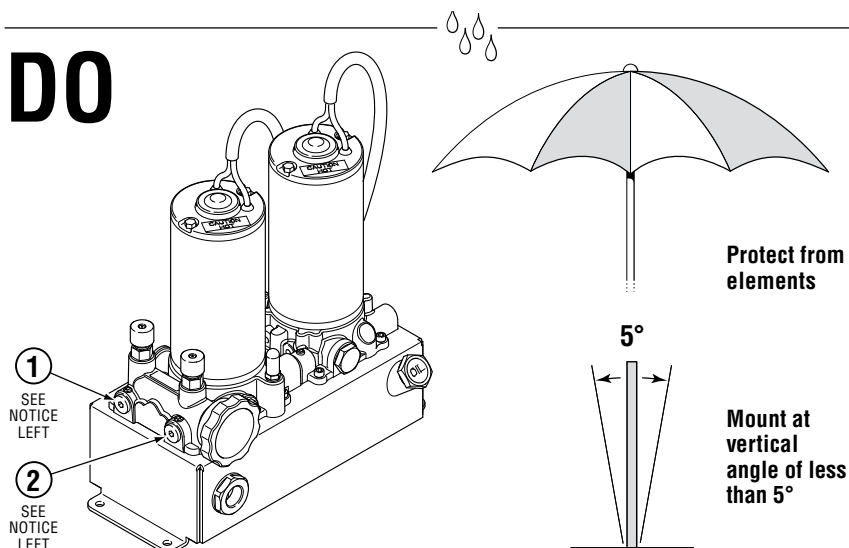

Figure 4-8.
Hose fittings can be relocated to plugged ports if required. (See figure 4-8, item 1 and 2.) Torque hose fittings to 18 ft-lb (24 Nm) and plugs to 50 in-lb (6 Nm).